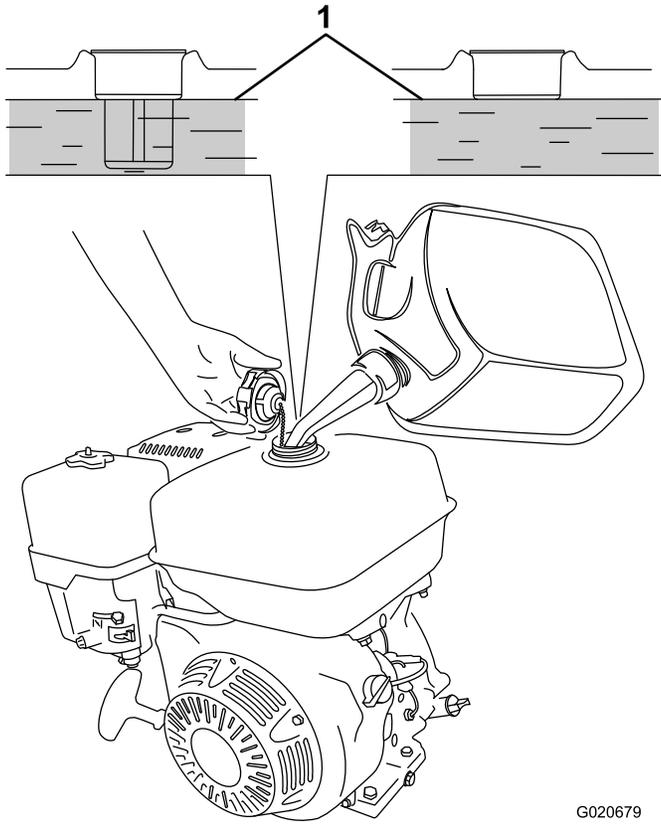

Figure 12
3. Clean around the fuel-tank cap and remove it (Figure 12).
4. Add unleaded fuel to the fuel tank until the level is at the bottom of the maximum fuel level (Figure 12).